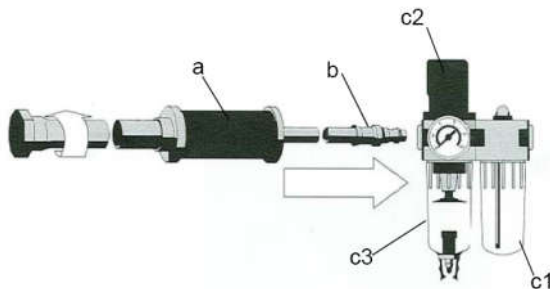

Fig. 1: Adjusting the oiler
- Connect the scraper in conjunction with the hose unit (a) and the single hand coupling (b) to the maintenance unit (c1 – c3) (see Fig. 1).